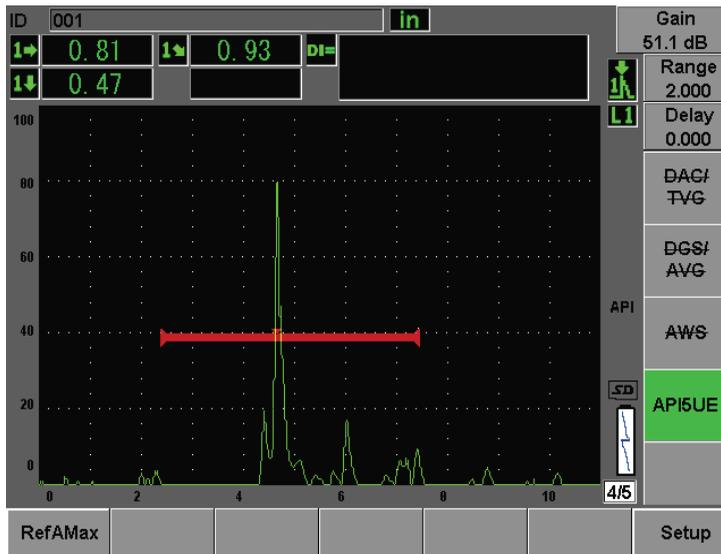

Figure 12-25 Storing the  $A_{\max}$  point
5. Press **[P1] RefAMax** to store the  $A_{\max}$  point, and then press **[P1]** to confirm (see Figure 12-25 on page 256).